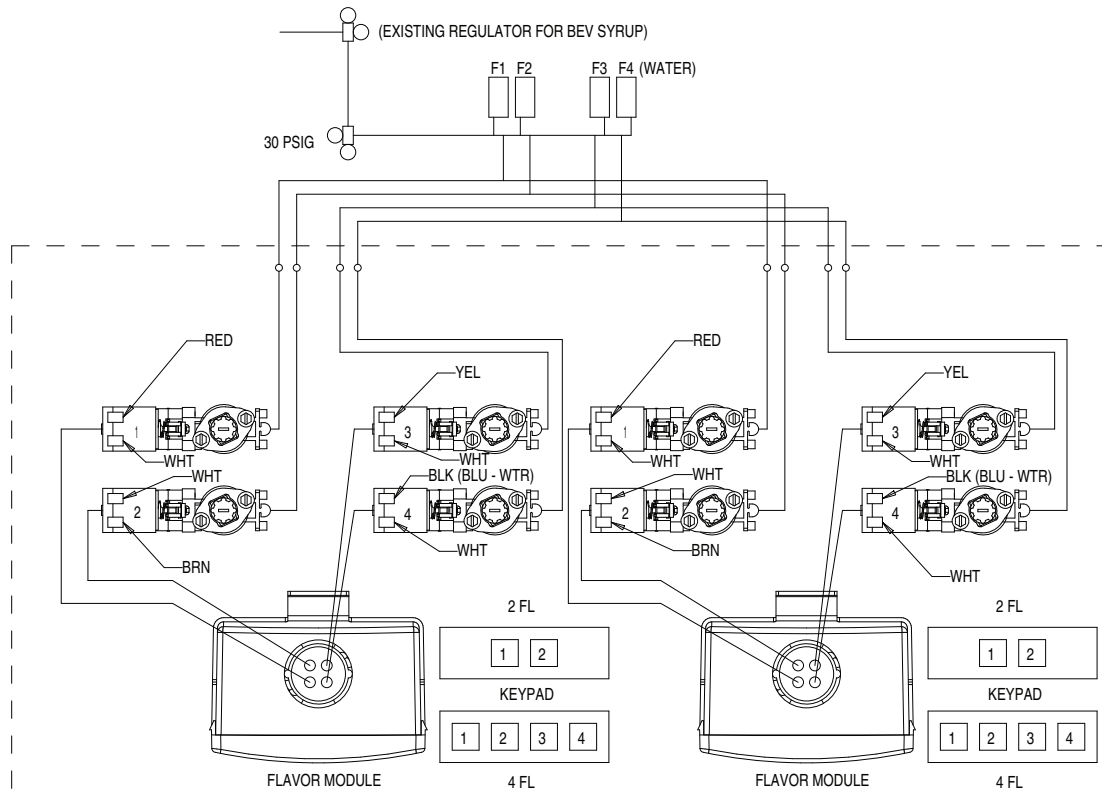

Figure 5. ED 300 Plumbing/Electrical Connections
19. Set-up syrup flavors in Back-Room Package area as shown in BRP set-up (see Figure 5).